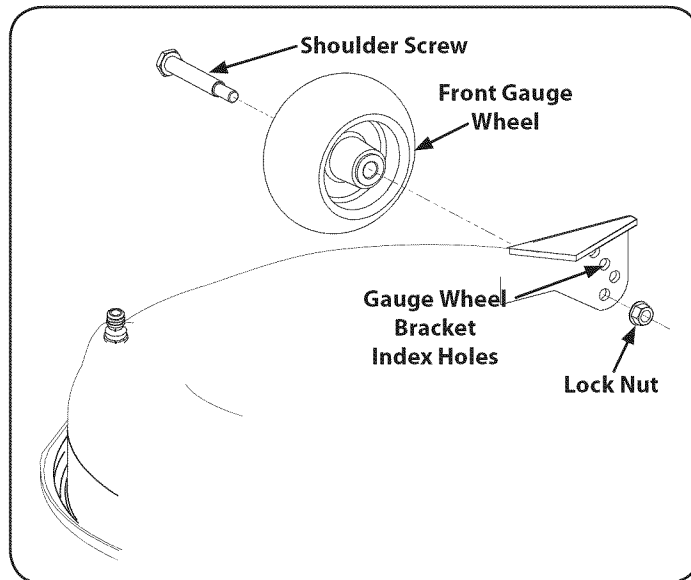

Figure 7
2. Remove the flange lock nut securing the front gauge wheel shoulder bolt to the deck. Remove the gauge wheel and shoulder bolt. Refer to Figure 7.